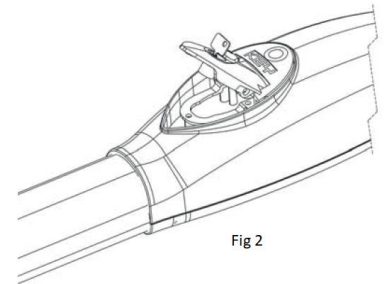

Fig 2
- Lift up cover to unlock moving part. (Fig 2)